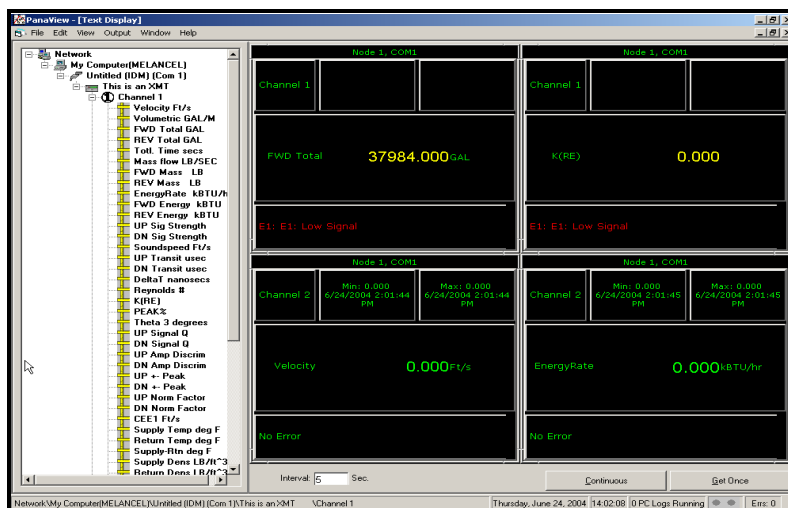

Figure 3-5: Multiple Text Screens in the *Text Display* Window
2. Repeat Step 1 for any desired additional process parameters, by double clicking on them in the PanaView network tree. PanaView automatically tiles the multiple text screens in the right pane of the *Text Display* window, as shown in Figure 3-5 below.